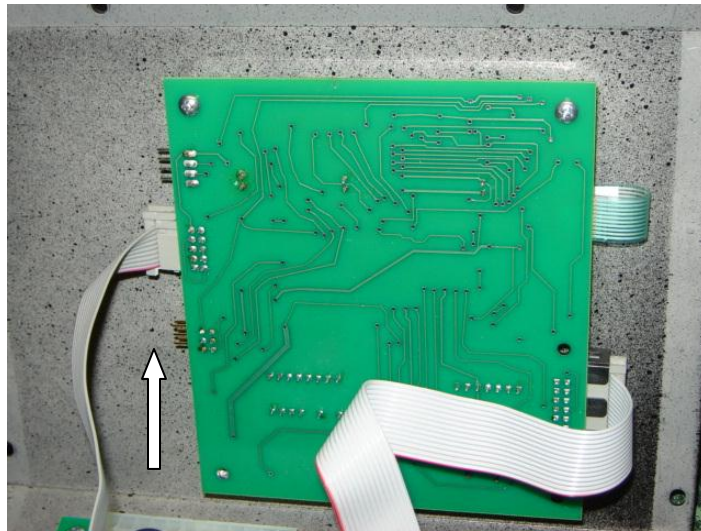

Figure 3
- 6) Attach connector to the printed wiring board as shown in Figure 3, making sure that the pins align with the holes in the connector. Also, verify that the small triangle on the connector is nearest the square pad on the printed wiring board. The arrow on Figure 3 shows the location of the square pad.